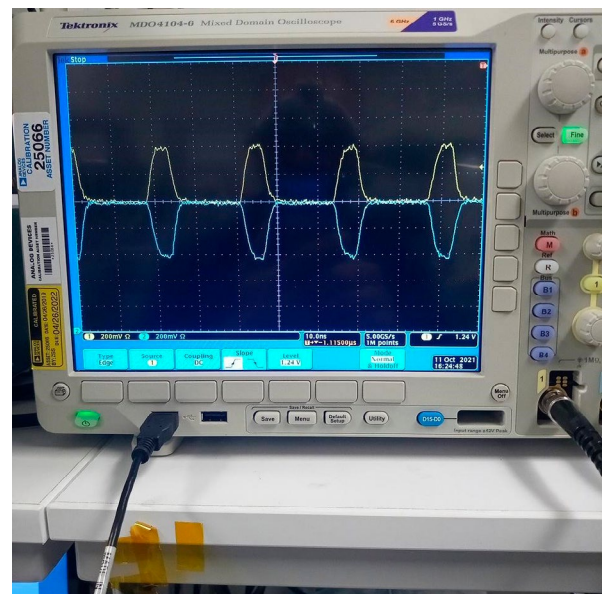

Figure 9. OUT and OUTBAR Typical Waveforms
7. Apply a 400nm to 1100nm wavelength pulsed laser, similar to the one identified in the Equipment List as the ST micro light source, to the APDs, which are identified in Figure 1. With a 5ns duration laser pulse width from this light source, the Figure 9 typical scope waveforms can be expected at OUT and OUTBAR SMAs (Ch1: OUT, Ch2: OUTBAR):